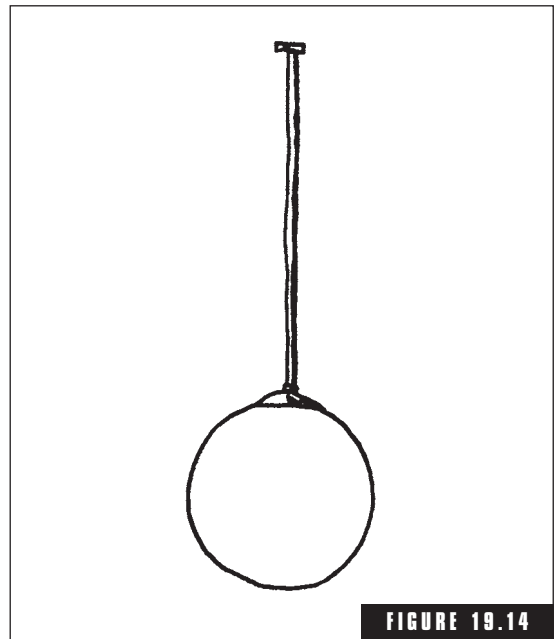

FIGURE 19.14
- **General diffuse**—almost an equal amount of light produced in all directions, such as the light emitted from a suspended globe (Fig. 19.14).